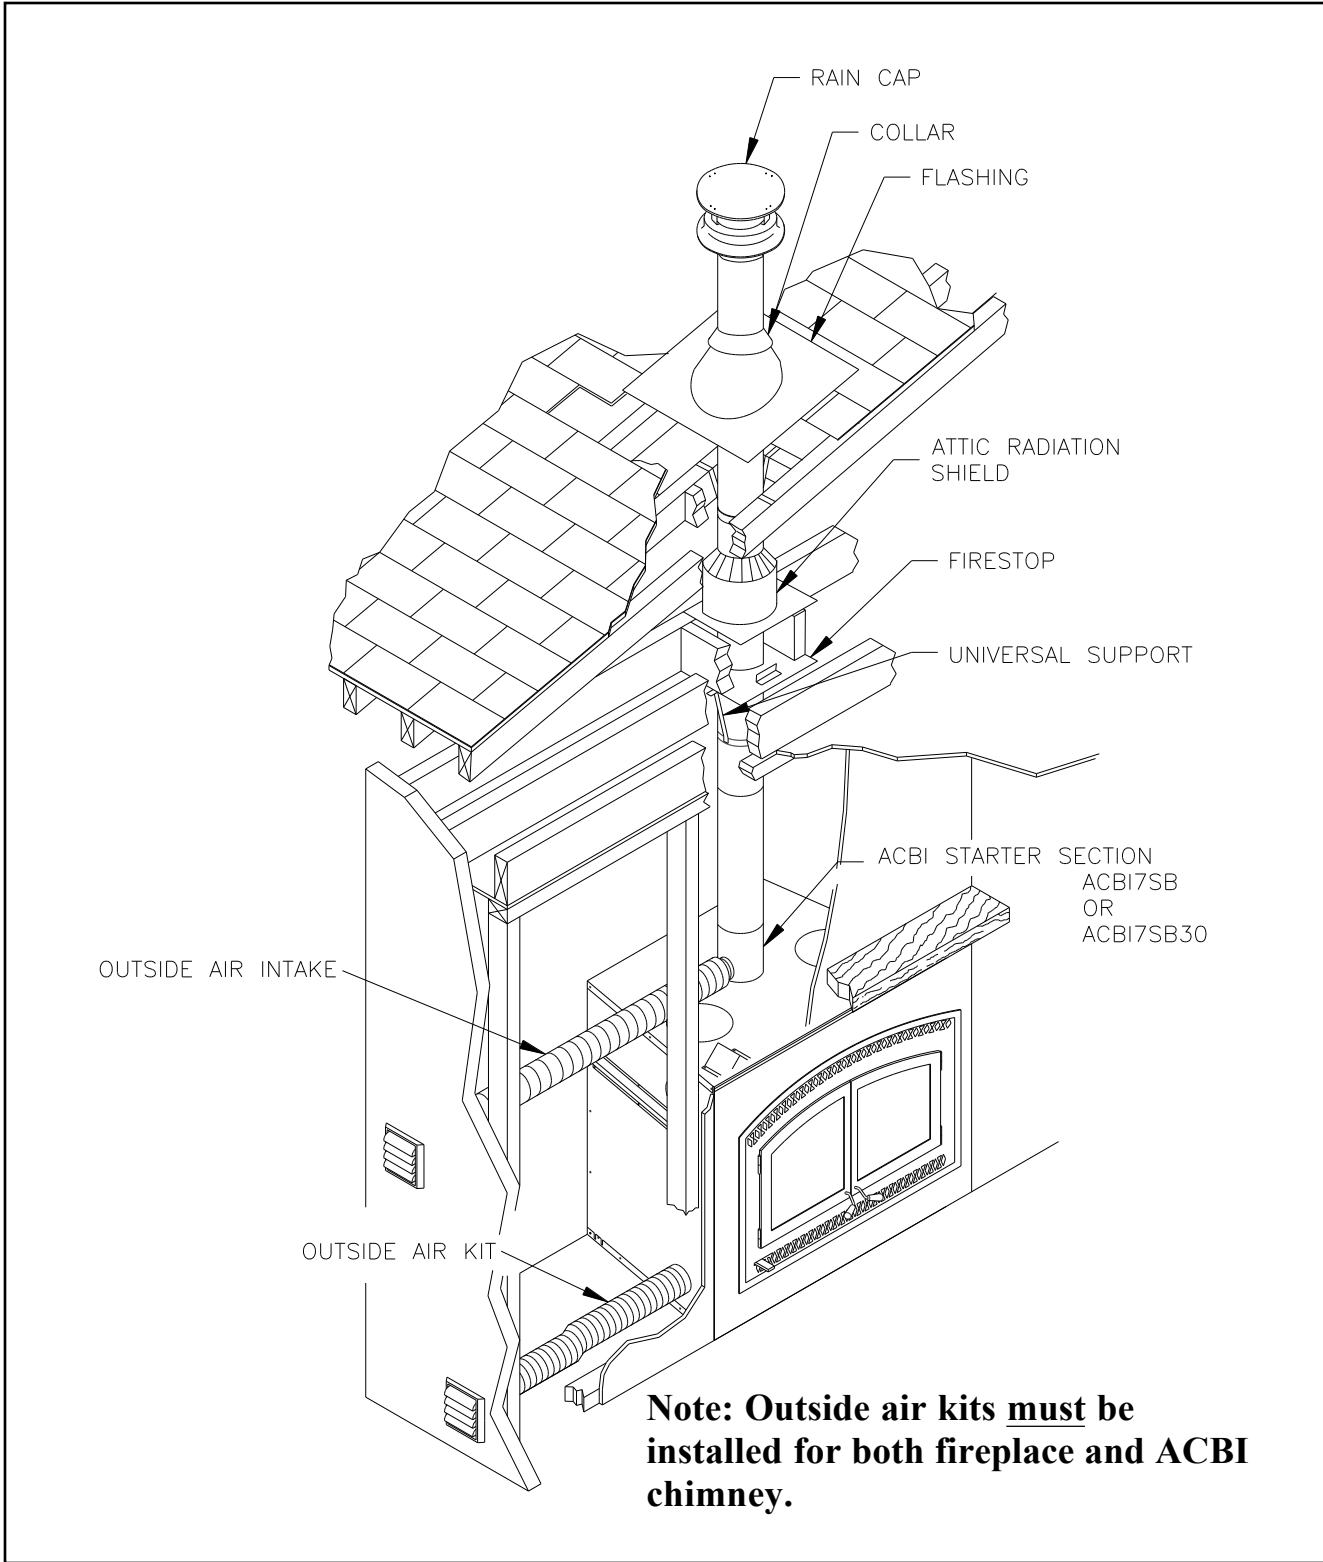

Figure 30
2. For Secure TempS2100+ / Nova TempHT6000+ / Secure TempGX chimneys, place the first chimney length on the fireplace. To lock it in place, turn  $\frac{1}{4}$  of a turn clockwise. With the ACBI chimney, you must use a starter section before installing the first chimney length (figure 30). Continue installing chimney lengths making sure to lock each length in place.